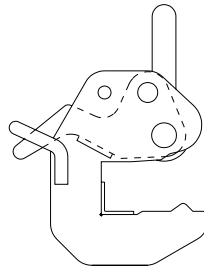

Fig. 20.2
1. Open the safety lever as far as possible (Fig. 20.2).